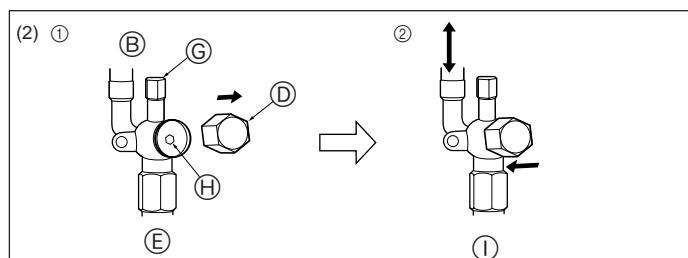

Fig. 4-7
- ① Remove the cap, pull the handle toward you and rotate 1/4 turn in a counterclockwise direction to open.
- ② Make sure that the stop valve is open completely, push in the handle and rotate the cap back to its original position.
(2) Liquid side (Fig. 4-7)
- ① Remove the cap and turn the valve rod counterclockwise as far as it will go with the use of a 4 mm [5/32 inch] hexagonal wrench. Stop turning when it hits the stopper.